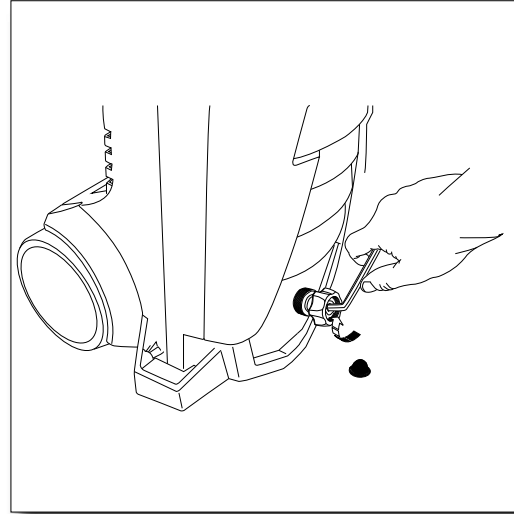

Fig. 16
- Remove washer filter, then using an 8mm or 5/16 allen wrench, tighten until snug. DO NOT over tighten. **(Fig. 16)**